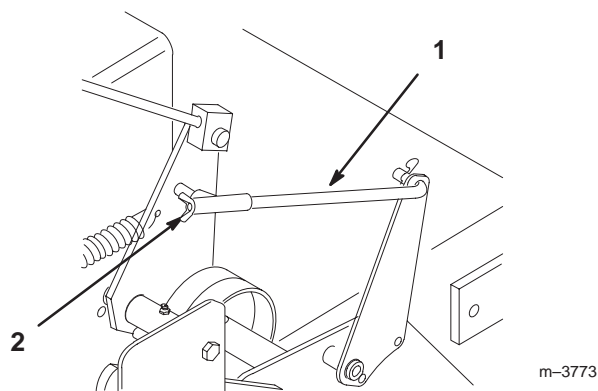

Figure 41
3. To adjust brake set the parking brake latch, and rotate the wing nuts on the brake rods (Fig. 41). Clockwise to tighten the brake and counterclockwise to loosen the brake.